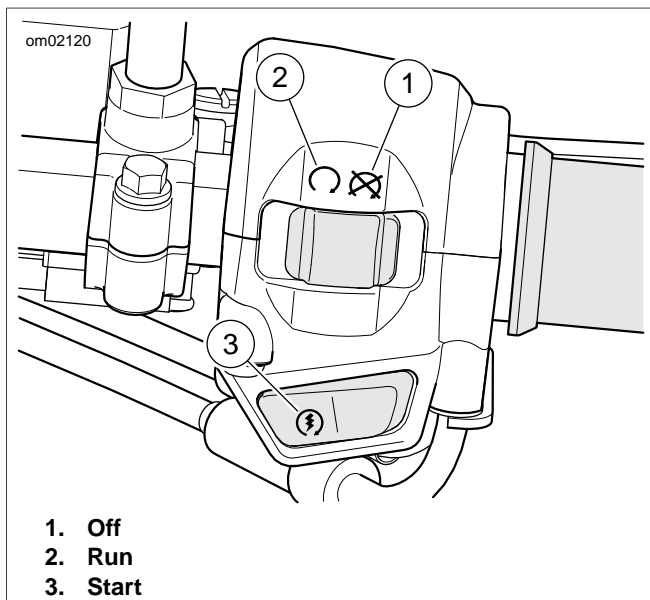

Figure 20. Right Hand Control Switches
See Figure 20. Press the off/run switch to off (1) to turn off the engine. With the off/run switch in the off position, the engine cannot start or run. With the off/run switch in the run position, the engine starts and runs. Refer to Table 9.
See Figure 20. Press the off/run switch to run (2) to turn on the electrical circuits to the engine. With the off/run switch in the run (2) position, the engine starts and runs. Refer to Table 9.
See Figure 20. With the off/run switch in run, press the start switch (3) to start the engine. Refer to Table 9.